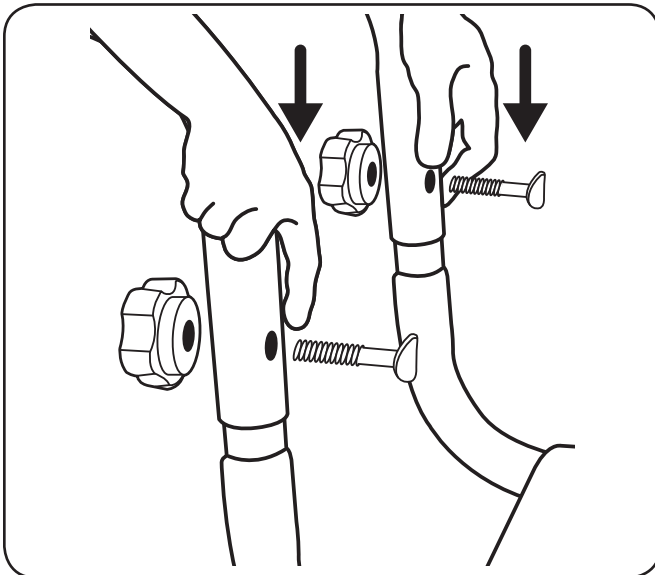

Figure 3-1
1. Slide the handle assembly onto the frame and secure with saddle bolts and knobs. See Figure 3-1.